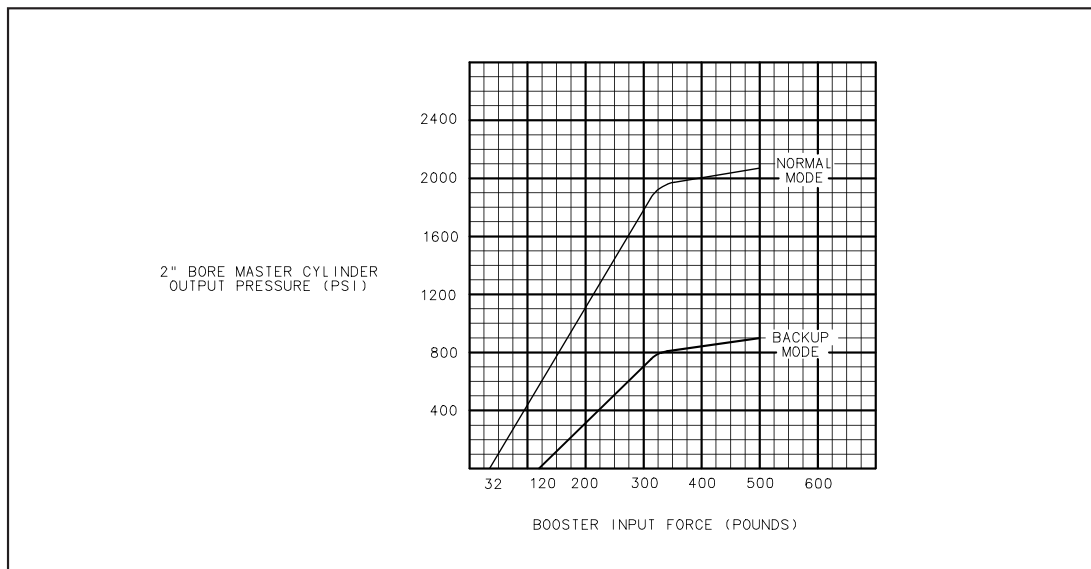

Figure 3 Typical Performance Curve
In the event normal flow from the power source is interrupted, the backup pump provides the power at a reduced rate for stopping. See *Figure 3* for performance curve. Upon flow interruption, the integral flow switch closes, energizing a relay, providing electrical power to the backup pump.
Figure 3 illustrates the typical relationship of master cylinder pressure and input force of the booster.
1. **Backup Pump:** The Hydro-Max™ hydraulic booster has a backup pump which will provide hydraulic boost at a reduced rate if the normal source of fluid is interrupted (refer to *Figure 3*). The signal for operation of the backup pump comes from the flow switch. If normal flow is interrupted, the flow switch will close and activate the relay, which will turn on the backup pump. The backup pump is available for 12 and 24-volt systems.